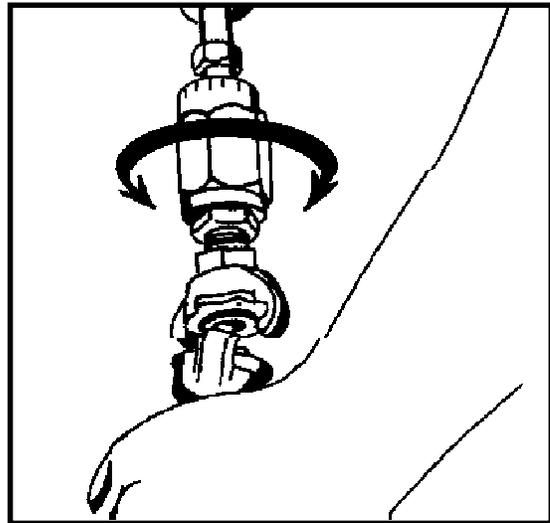

Figure 9
5. The SDB 103/3 is equipped with a throttle control to meter the air flow to the motor. Rotating the throttle counter clockwise will close the valve. Clockwise rotation will open the valve (Figure 9).